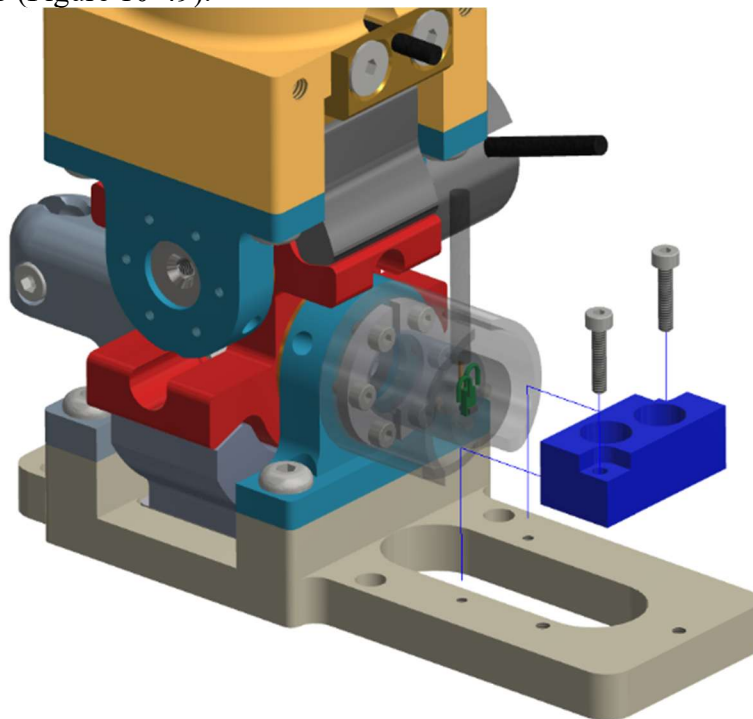

Figure 10-49. Attach foot tilt sensor
- 10.3.14 Attach the tilt sensor to the lower ankle plate (474-5806-1,2) using two M2 X 0.4 X 10 LG. SHCS (Figure 10-49).